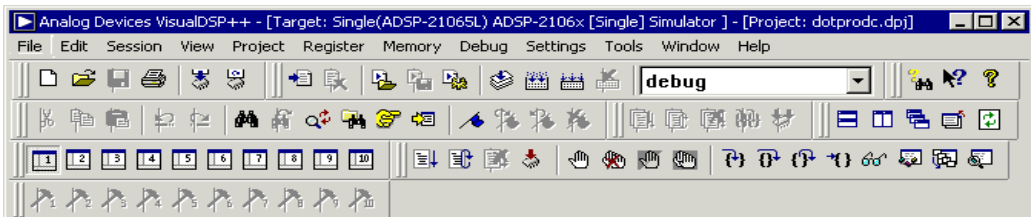

Figure 3-1. VisualDSP++ Toolbar Buttons
**Tip:** Become familiar with the VisualDSP++ toolbar buttons, shown in Figure 3-1. They are shortcuts for menu commands such as **File**, **Open**. Toolbar buttons and menu commands that are not available for the task that you are performing are disabled and displayed in gray.